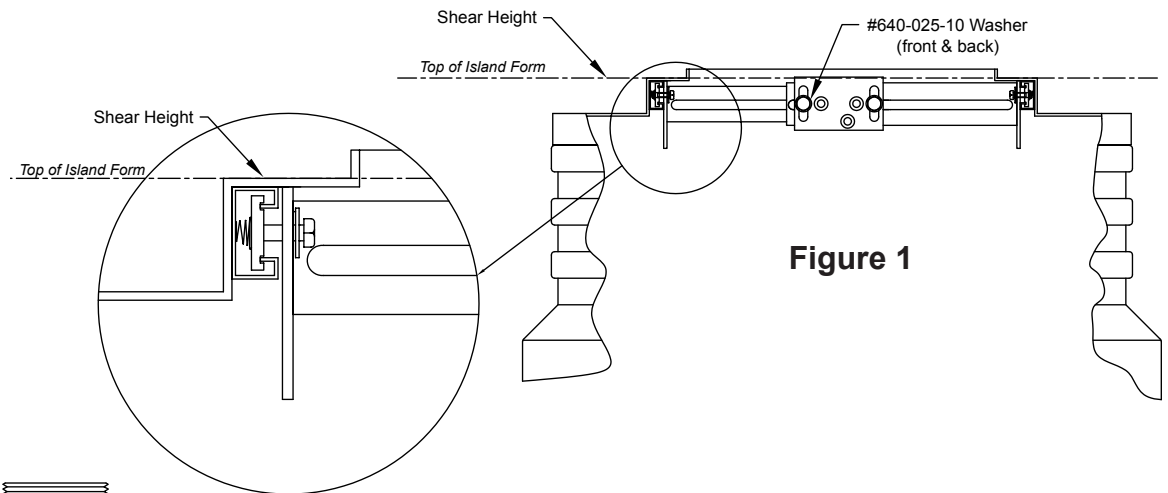

Figure 1
2. Connect the mounting plate to the shear valve using three socket head cap screws. See Figure 1.